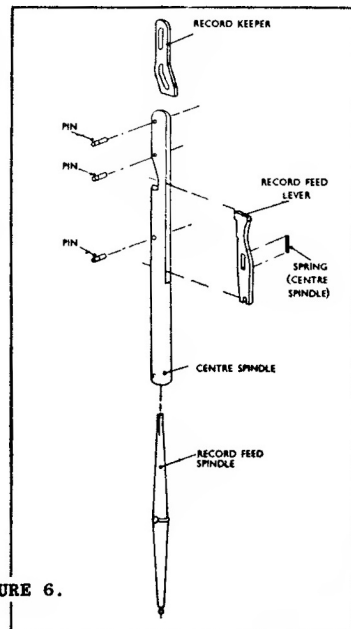

FIGURE 6.
(2) Record feed lever (Item 8M104) (Figure 6) broken.	Replace record feed lever or the complete center spindle.